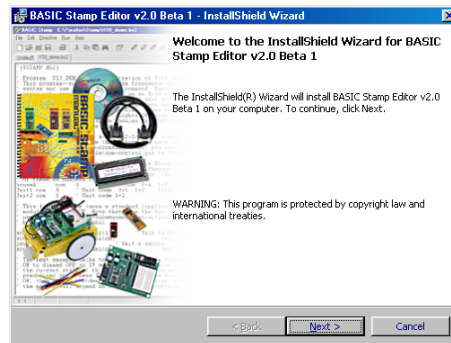

Figure 1-18
- √ When the BASIC Stamp Editor InstallShield Wizard window opens, click the *Next* button shown in Figure 1-18.